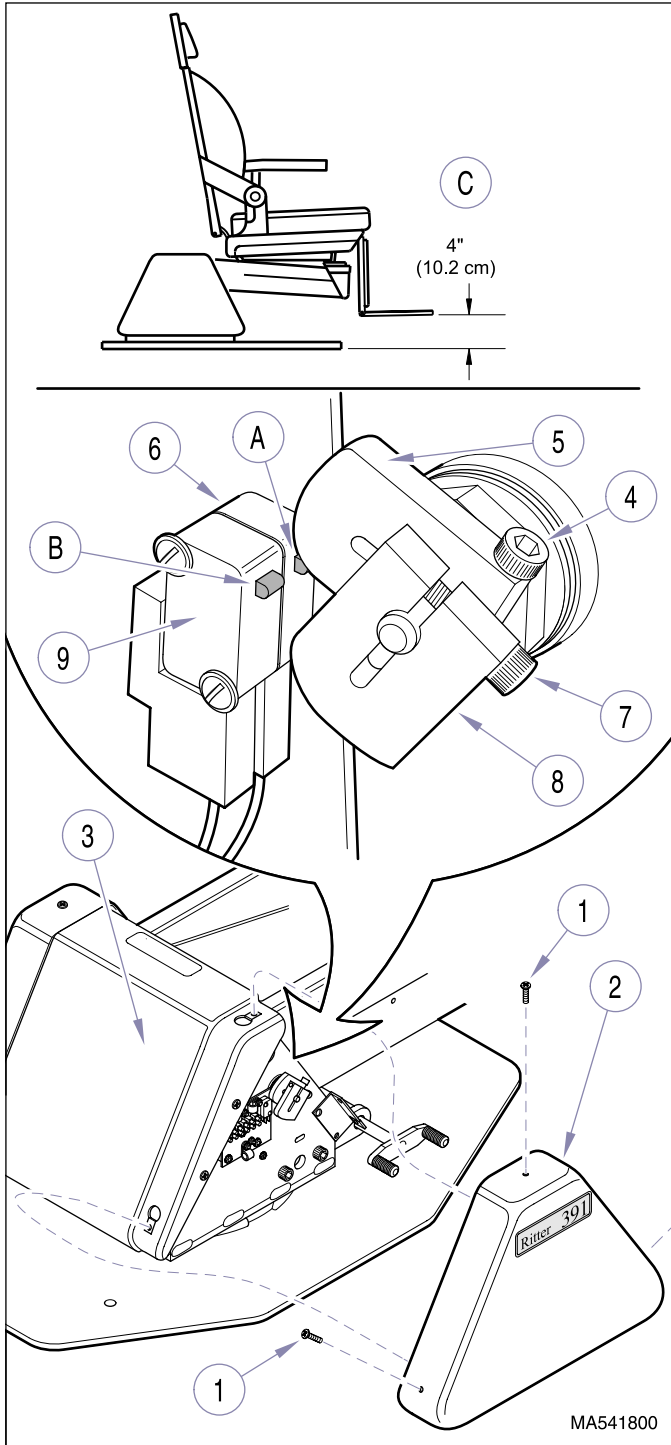

Figure 4-15. Base Up & Base Down Limit Switch Removal / Installation
- (1) Remove three screws (1, Figure 4-15) and R.H. base cover (2) from center base cover (3).
- (2) Loosen screw (4) and rotate cam (5) **up** off of trip button (A) of base up limit switch (6).